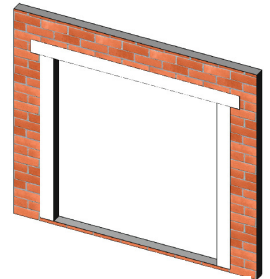

Figure 15:
3. Finally, at the head, embed the flashing into the sealant on the mounting flange and fasten into place. The flashing paper should be cut sufficiently long enough to extend past the flashing paper at each jamb by at least 3 in (Figure 15).